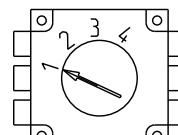

Figure 1
1. Remove hardware from regulator, turn regulator over and select appropriate switch position (See NOTICE above and Table 1 and Figure 1).